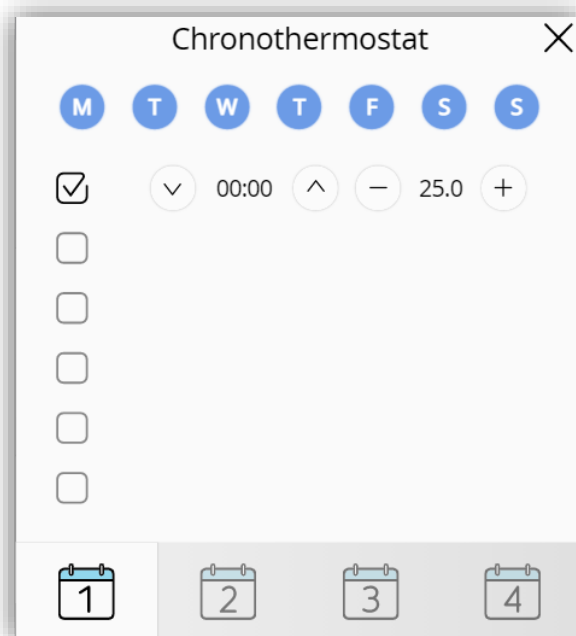

Figure 107. Chronothermostat panel
- **Minimum Setpoint Value** [-99 ... 18 ... 199][°C]: minimum setpoint value that the user can be set on the chronothermostat panel (see Figure 107).
- **Maximum Setpoint Value** [-99 ... 30 ... 199][°C]: maximum setpoint value that the user can be set on the chronothermostat panel (see Figure 107).